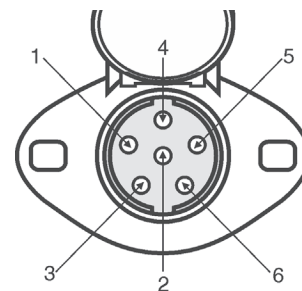

Figure 1
1. Attach the included length of red 14 gauge wire to the center pin (the number 2 pin in Figure 1) in the towed vehicle's power cord socket.